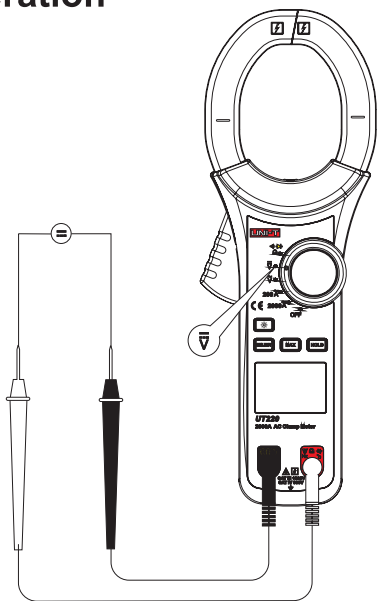

Figure 3
1. DC voltage measurement \bar{v} (See Figure 3)